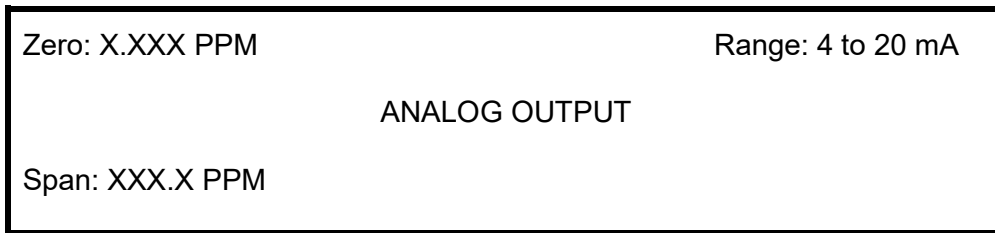

Figure 3-19: Calibration Menu
4. The “ANALOG OUTPUT” menu consists of the parameters to perform the Analog Output Test. See Figure 3-19.